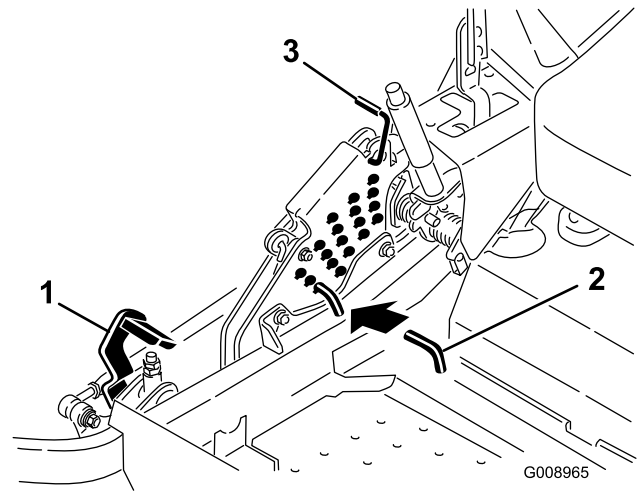

Figure 81
5. Push the deck lift pedal all the way forward and the deck will latch at the 5 1/2 inch (14 cm) transport position (Figure 81).